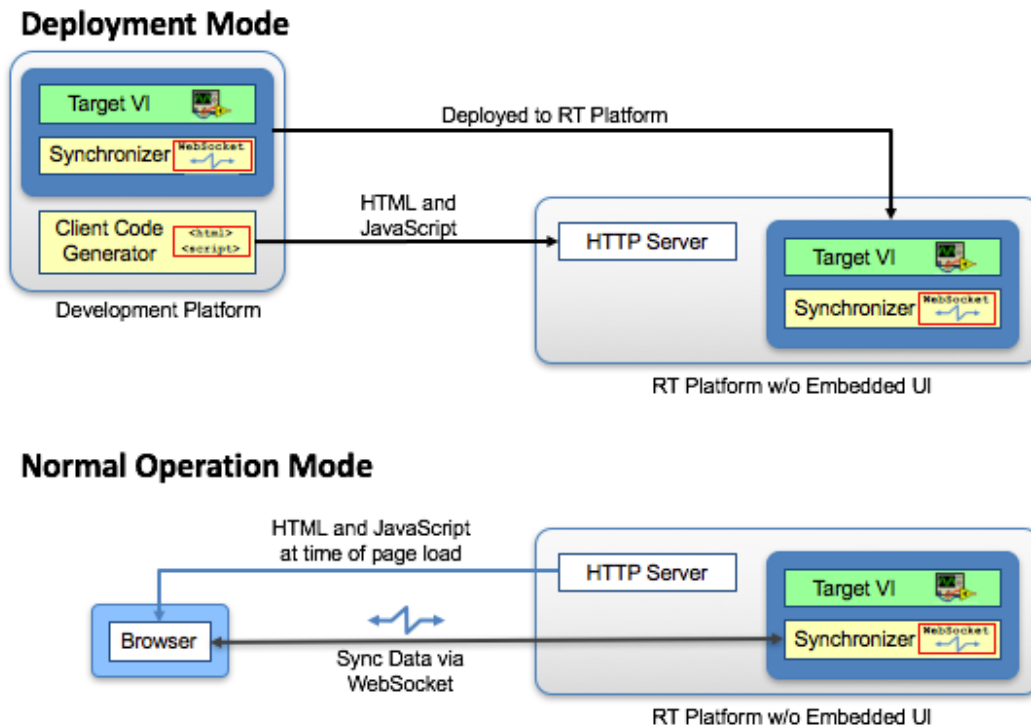

Figure 3.1. LabSocket-E System Overview
LabSocket-E operates in two modes (Figure 3.1). In “Deployment” mode, the developer uses the *Client Code Generator* tool on the development PC to automatically create HTML and JavaScript (JS) code representing the Target VI front panel and a binary configuration file. The Generator is then used to deploy the HTML and JS code, other browser support files and the configuration file to the Real-Time (RT) platform.